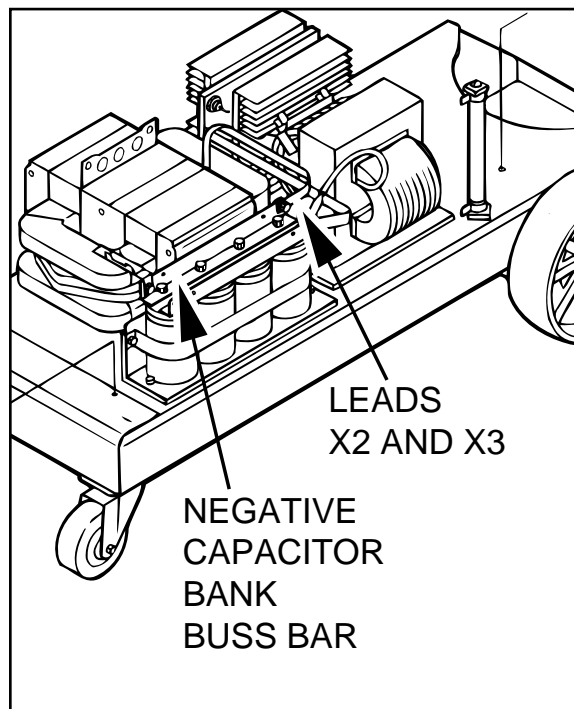

FIGURE F.3 - Location of Leads X2 and X3.
4. Disconnect leads X2 and X3 from the negative capacitor bank using a 1/2" open end wrench. See Figure F.3.
5. Separate leads X2 and X3 from the negative capacitor bank buss bar. Be sure there is no electrical contact. See Figure F.3.